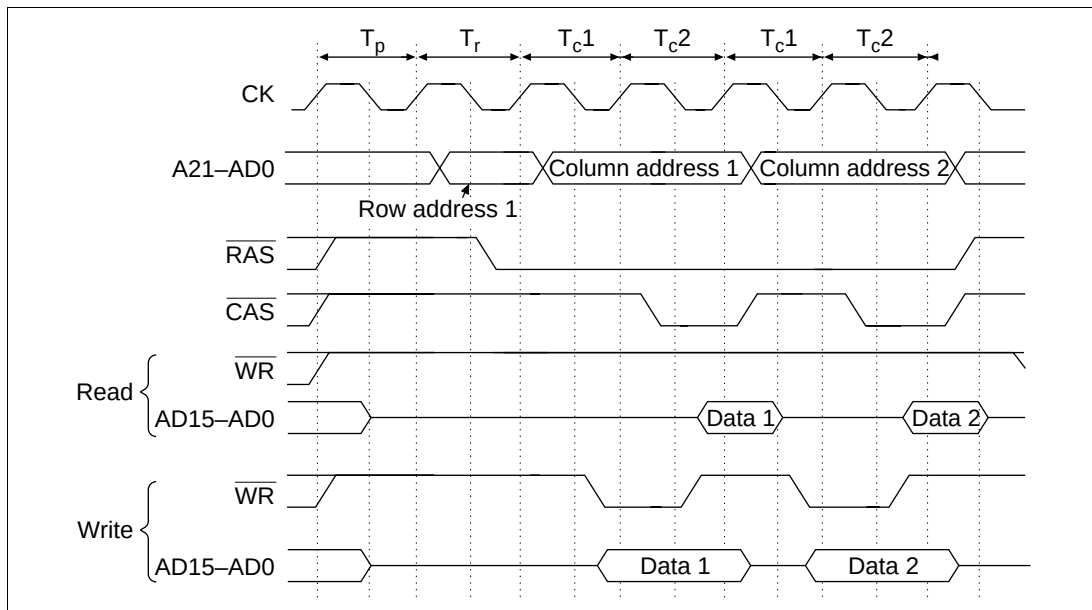

**Figure 8.26 Long-Pitch, High-Speed Page Mode (Read/Write Cycle)**
- Long-pitch, high-speed page mode: When the RW1, WW1, DRW1, and DWW1 bits in WCR1 and WCR2 are set to 1, and the corresponding DRAM access cycle is continuing, the  $\overline{\text{CAS}}$  signal and column address output cycles (2 states) continue as long as the row addresses continue to match. When the  $\overline{\text{WAIT}}$  signal is detected at the low level, the second cycle of the column address output cycle is repeated as the wait state. Figure 8.26 shows the timing for long-pitch, high-speed page mode. See sections 20.1.3 (3) and 20.2.3 (3), Bus Timing, for more information about the timing.